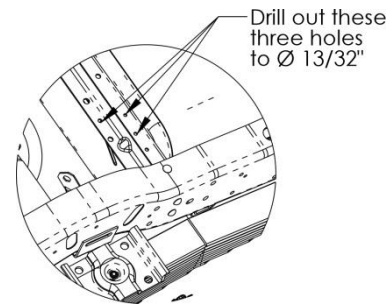

Figure 8. Cross-member drill holes
10. Drill out the three (3) indicated holes on the top and bottom flanges of the aft of axle cross-member to $\text{Ø}.406''$ ($13/32''$). See Figure 8.